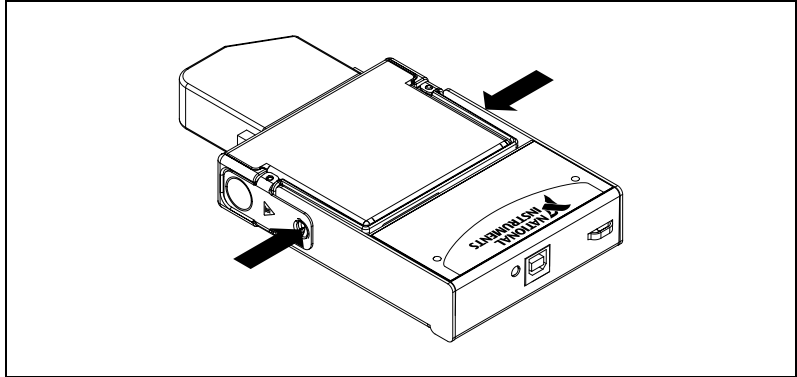

Figure 4. Locking Module into Place
5. Press firmly on the connector side of the NI 9481 module until the latches lock the module into place, as shown in Figure 4.